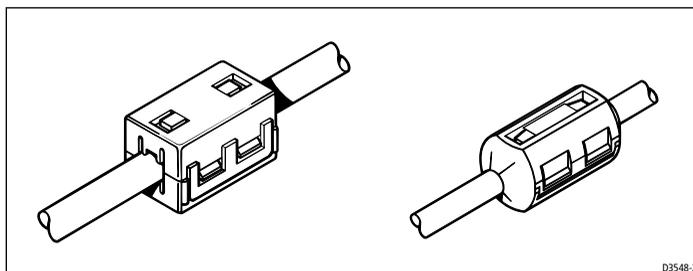

Figure 4: Typical Suppression Ferrites
*Figure 4* shows typical cable suppression ferrites used with Raymarine equipment. Always use the ferrites supplied by Raymarine.